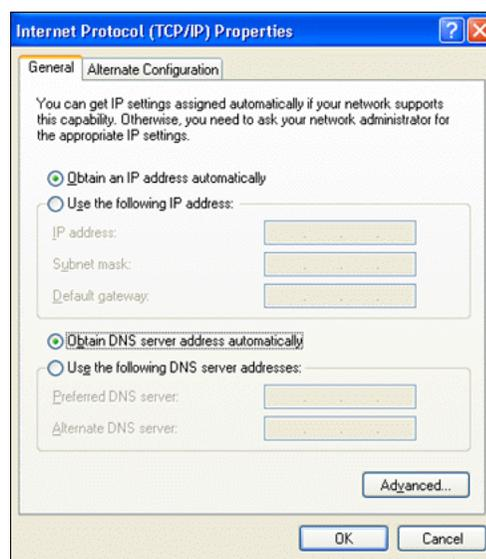

Figure 2-30. Internet Protocol (TCP/IP) Properties Dialog
Step 3. If you want to obtain DNS server addresses from a DHCP server, click Obtain DNS server address automatically, as shown in Figure 2-30 above.